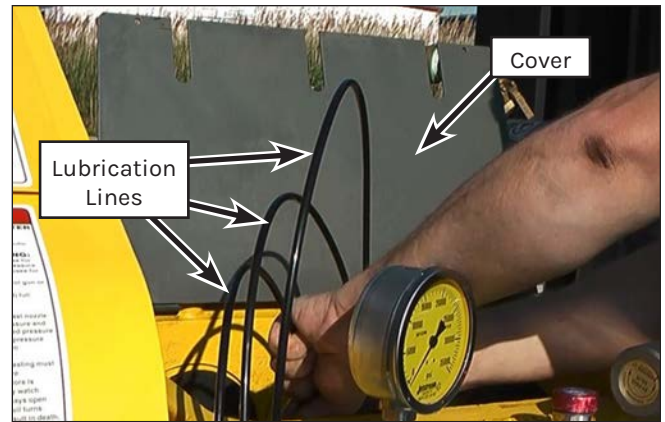

Figure 75: Connecting the Water Lubrication Lines.
25. Connect the water lubrication lines (Figure 75) to the fittings on the stuffing boxes.